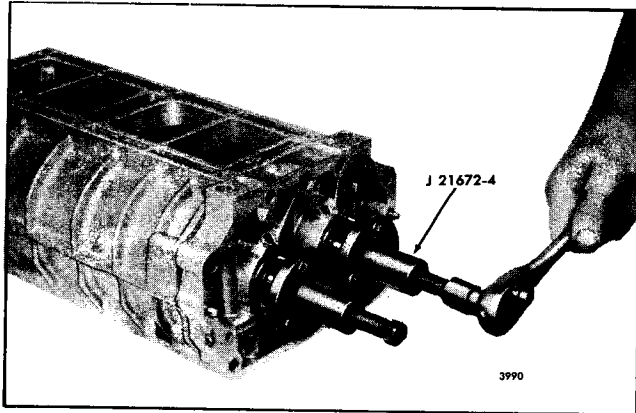

Fig. 7 - Removing Blower Rotors from Front End Plate Ball Bearings (Former Blower)
- a. Back the center screw out of both pullers J 21672-4, then attach the pullers to the blower front end plate with six 1/4" -20 x 1-1/2" or longer bolts as shown in Fig. 7.